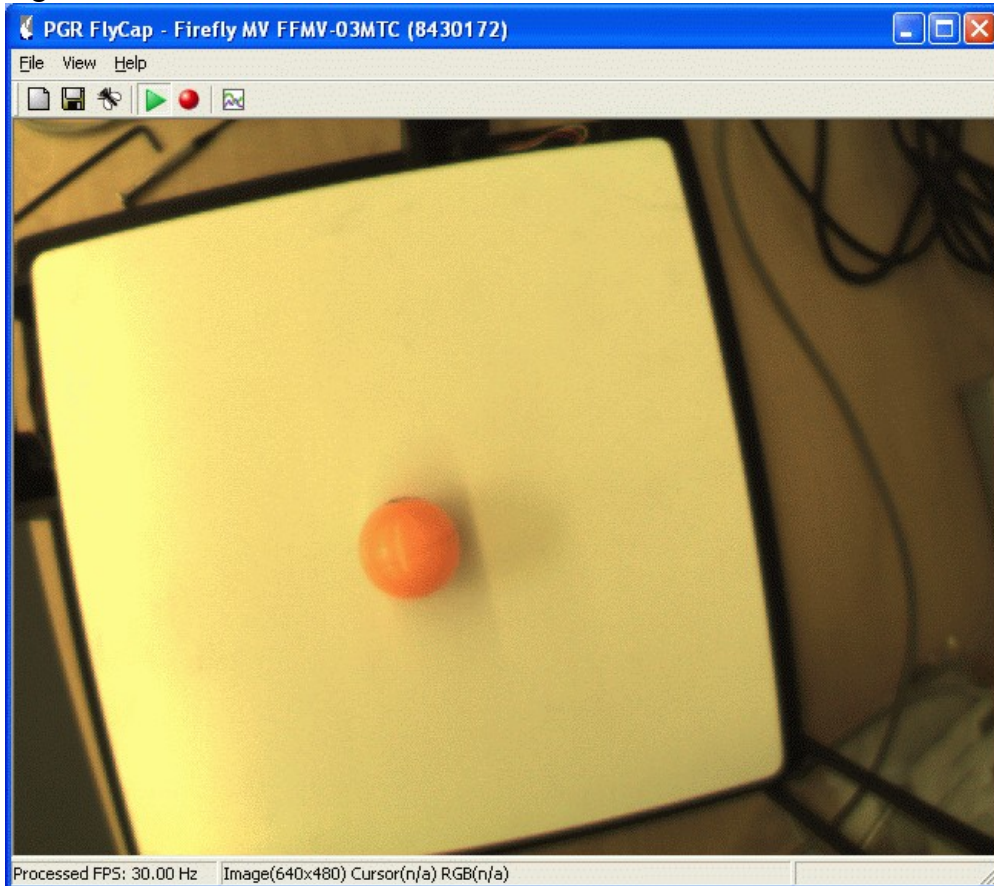

Figure 10: Initial view in FlyCap software.
5. Run the FlyCapexe program and you should see the ball and plate, for example as shown in Figure 10.